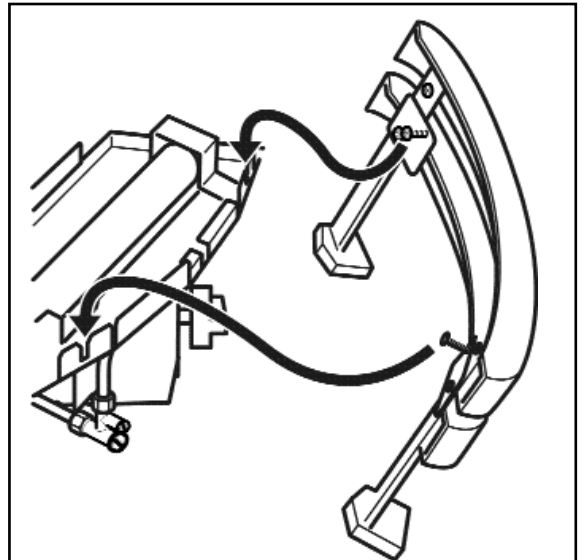

Figure 32. Hanging the firefront
3. Locate the firefront as in figure 32. The screw heads should locate into the slots in